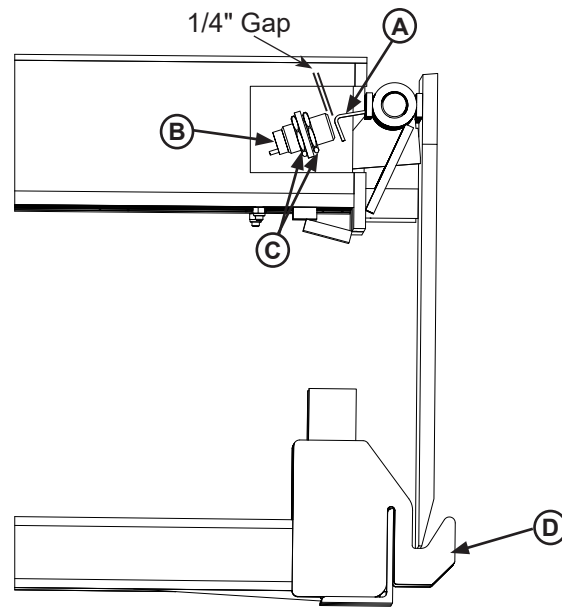

Figure 31
Stored - Lip plate is resting in the lip keepers (D). In the stored position, target (A) is directly in front of the sensor (B). See **Figure 31**.
2. When the sensor and target are positioned correctly, the target should be parallel to the face of the sensor with a gap of 1/4", when the lip is in the stored position. See **Figure 31**.
3. To adjust the sensor, loosen the nuts (C) around the sensor body to move the sensor and achieve the correct gap.